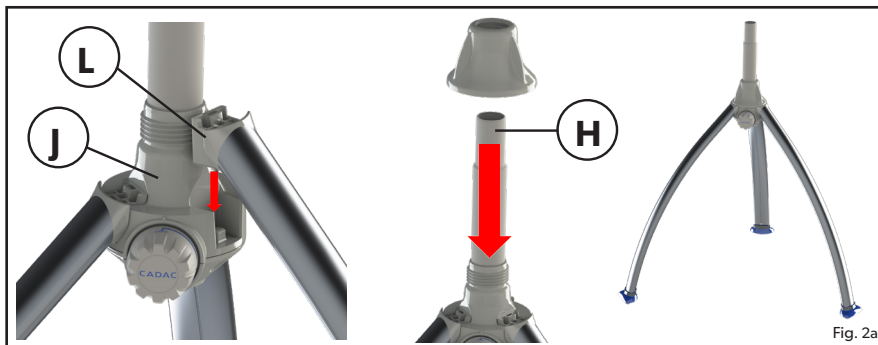

Fig. 2a
- Assemble the tripod stand as per figure 2a and 2b.